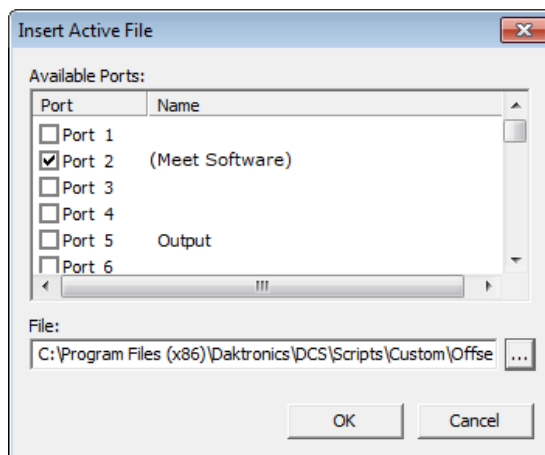

Figure 54: Insert Active File
- In the *Insert Active File* window (**Figure 54**):